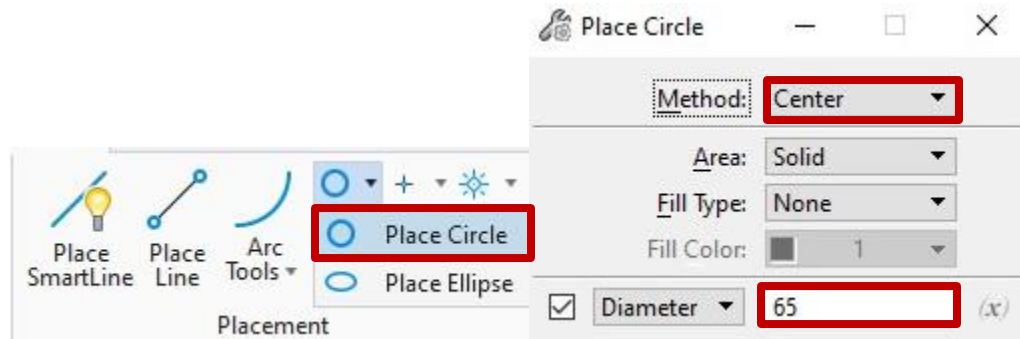

Figure 14 – Place Circle
1. Draw a circle with a 65 to 80-foot diameter using the Place Circle tool in the Placement Toolbox (**Figure 14**). The method of placing the circle should be Center. Use the Near Point snap to place the circle at the point of the spline that looks to have the tightest radius prior to the yield line.